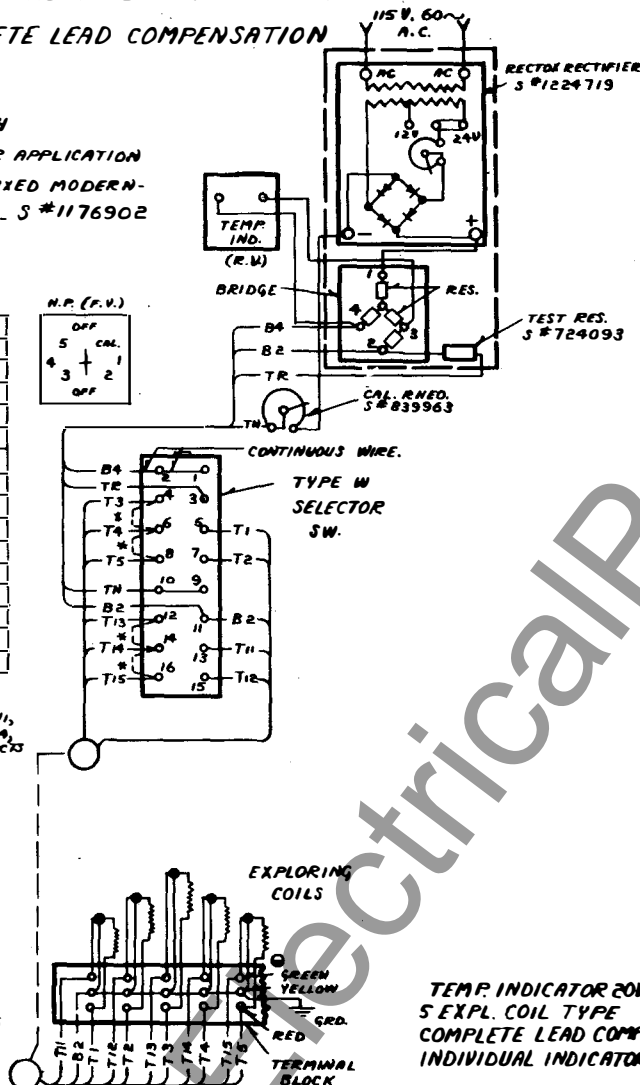

Fig. 1
For best results the wiring and selector switches shown by Fig. 1 should be used. A type W selector switch is required for each machine or group of six search coils. If calibrated leads are furnished with the outfit they should be connected between the indicator and the bridge box.
1. The diagrams, Figs. 1, 2 and 3 show the connections for use with rectox units and a.c. control. Connections for d.c. control are similar except that the d.c. control takes the place of
With the circuit set up as in Fig. 1, 2 or 3, turn the selector switch to test coil position and apply control circuit. The indicator should show 0° C. If the indicator reads too high, it will be necessary to reduce the series control resistance in the bridge box. Final adjustment can be made with the calibrating rheostat mounted on the panel. The latter can be used for correcting control voltage at any time before readings are taken.
- 1 - TYPE W SELECTOR SWITCH STYLE PER Fig. 1, 2 or 3
Rectox -- The Trickle Charger should be connected as shown in figures 1, 2, or 3.
Test Resistor--The connections for the test resistor are also shown in figures 1, 2, or 3.
Selector Switch--To bring an installation entirely up to date install new selector switches styles as per figures 1, 2, or 3, according to whether complete lead compensation or approximate lead compensation is used, and whether one indicator and selector switch per machine is used. Or whether one indicator serves separate machines through separate selector switches.
If other style selector switches as previously installed are to be retained with existing wiring a comparison of the old diagram with figures 1, 2, or 3 should be made to make sure that no other changes are needed in addition to those indicated above.
Type W Selector switch as per Fig. 1.....*